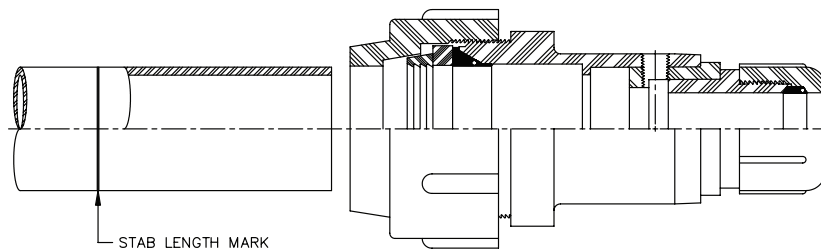

Figure 1
4. Stab pipe into outlet up to (not past) the stab mark. (When stabbing the pipe, the nut should be loosened to the point that at least three to five threads are showing). See figure 1.